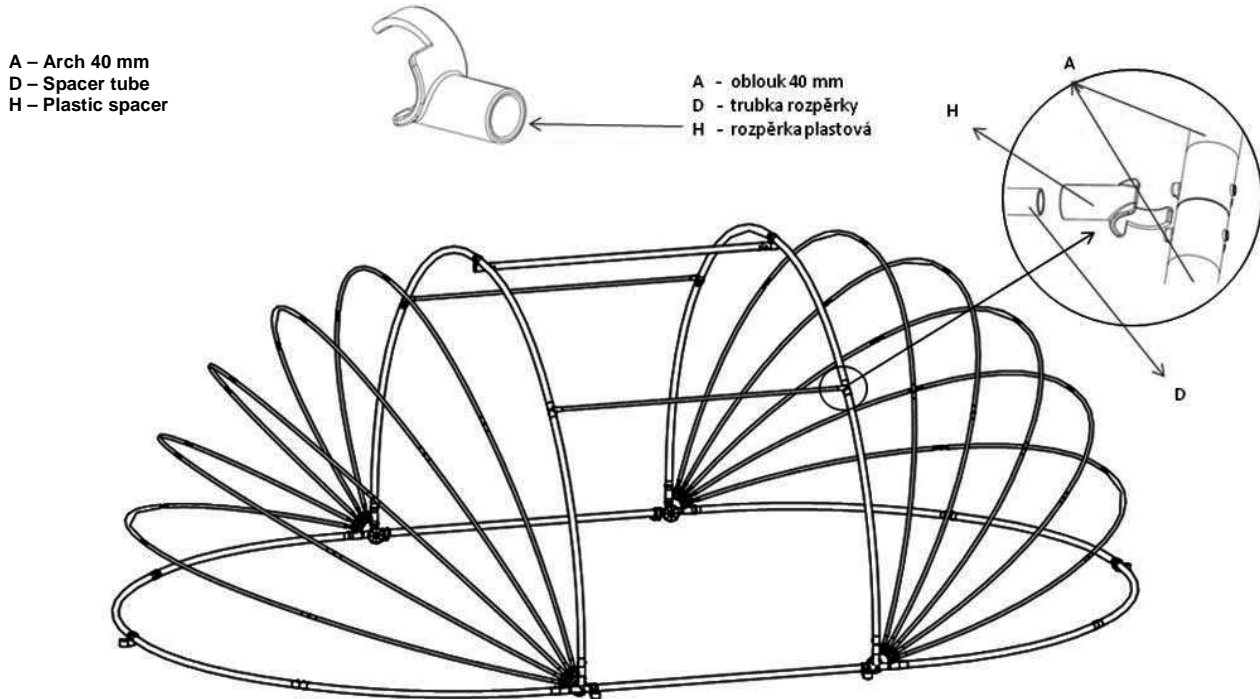

Fig. 12
Finally, the spacers (D) should be installed using the couplings (H) (See Fig. 12.) If the arches (A) have been properly assembled and installed, the spacer will hold in its position between the cotter pin noses (L). Before installation the straps for keeping the doors open should be put on the spacers (see Figs. E and F in Part 10 – Illustrated Supplement).